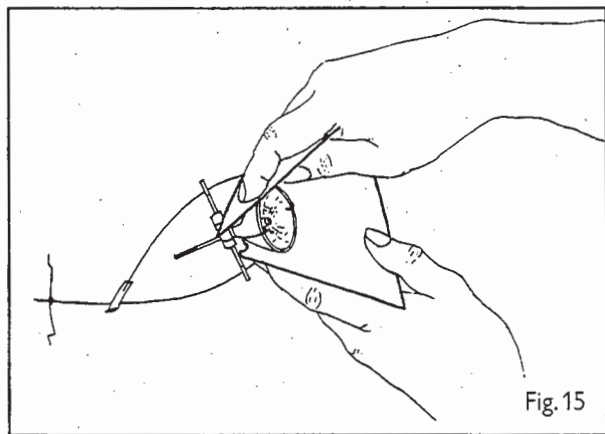

Fig. 15
1. With the mouth of the reflector facing you, place the shade over the reflector so that it forms a funnel shape. Insert the tongue at the edge of the shade into the slit (Fig. 15). Ensure that the tongues on the shade are pointing towards one of the two cables to which the elements are attached.
Remove the shade and unhook the retaining clip from the reflector. Remove the spent bulb from the holder and fit the replacement, pushing it in until it reaches the stop. If you have purchased a bulb without a protective glass cover, take care not to touch the coated inner surface of the reflector. Replace the retaining clip over the reflector, ensuring that the hooks firmly grasp the lower edge. Replace the shade (see description for Fig. 15).